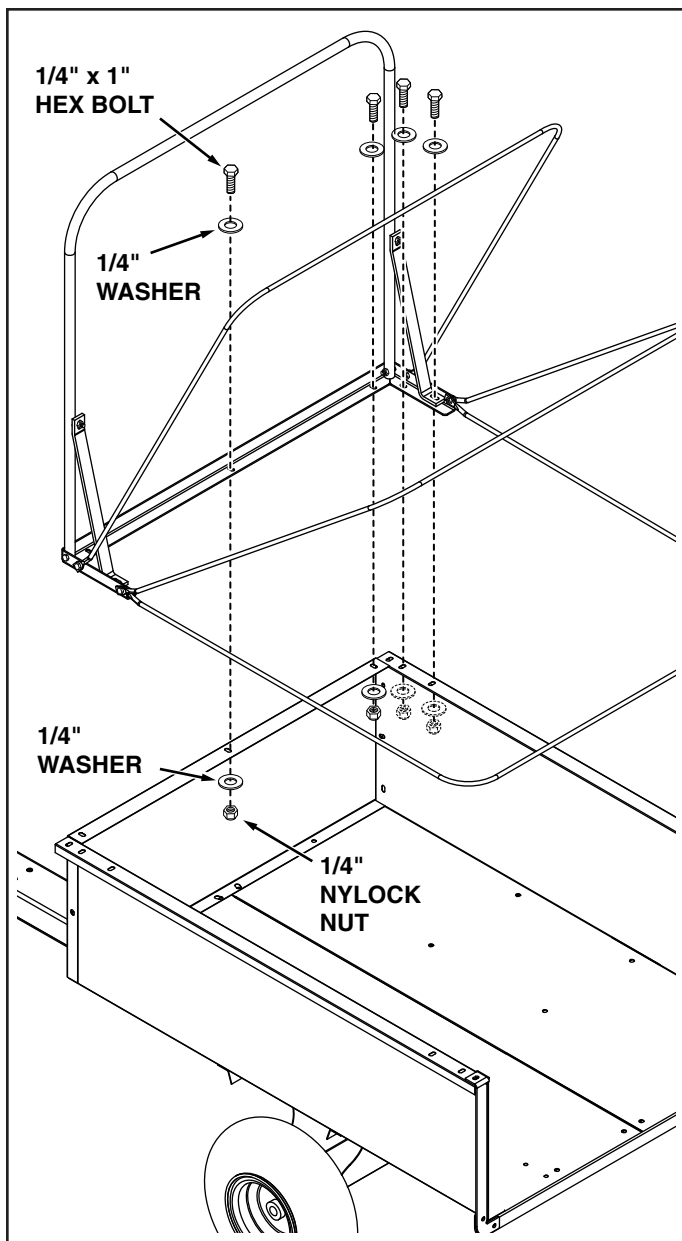

FIGURE 27
11. Place the top angle support and cart bag on top of the cart as shown in figure 27. Then, using a screwdriver or other sharp object, poke holes through the cart bag for the bolts that will be assembled in step 12.
12. Attach the top angle support and braces to the cart using seven 1/4" x 1" hex bolts, fourteen 1/4" washers (one placed on each side) and seven 1/4" nylock nuts. **DO NOT TIGHTEN YET.** See figure 27.